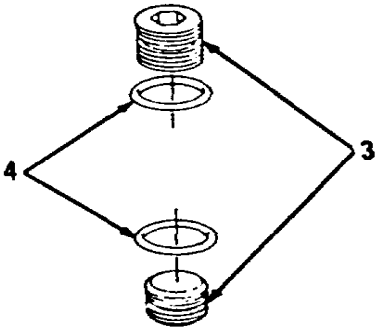

Figure 10-112.
- 8. Install two balls (6) and springs (5).
- 9. Install two new preformed packings (4) on plugs (3, Figure 10-112).